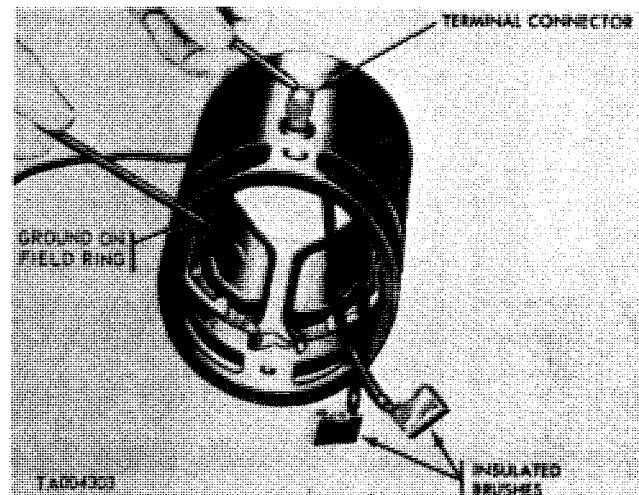

Figure 3-25. Testing field coils for grounds.
(1) Check field coils for insulation breakdown with an ohmmeter. Attach one probe of ohmmeter to field coil terminal and the other probe to field ring (fig. 3-25). The minimum reading should not be less than one megohm. If field coils are damaged, replace starter.
(2) Inspect field frame for cracks and burs. Replace starter if cracked.